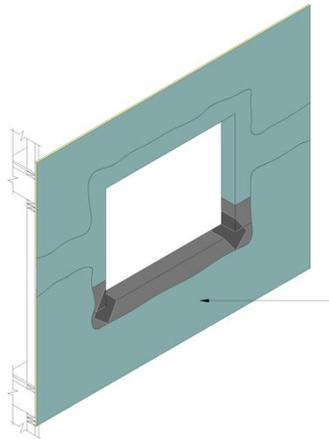

Fig. 12
- 4) Install the specified component (i.e. window, etc.) and associated flashings per manufacturer's directions and contract documents. Then apply Backstop NT – Texture or Smooth to the remainder of the wall surface as described in Section VI and lap over the previously installed material (do not lap over Flashing Tape if specified) around openings – Figure 12..